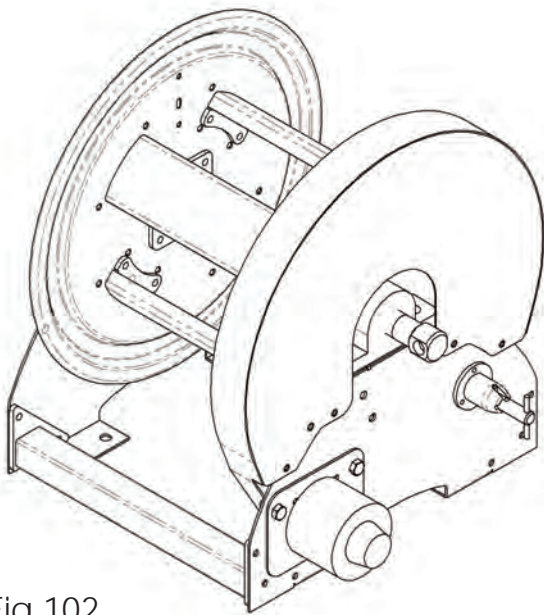
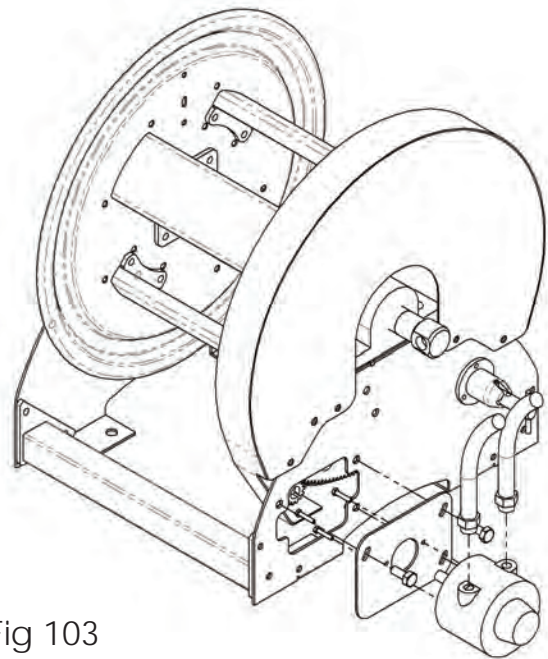

Fig 102
Fig 103
## Replacing the drive system - Fig 102, Fig 103
- Fig 102 & 103- 12 & 24 VDC, 110 VAC, 240 – 415 VAC, Gear drive hydraulic drive systems